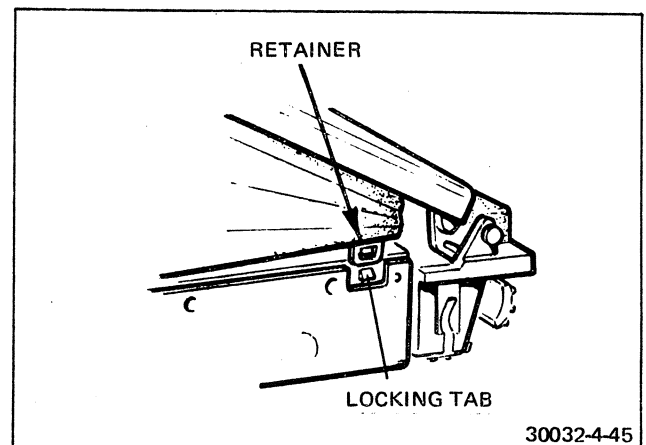

FIGURE 4-45 BOOT RETAINER
17. Snap the boot retainer into place by applying finger pressure to the two points indicated on Figure 4-45.